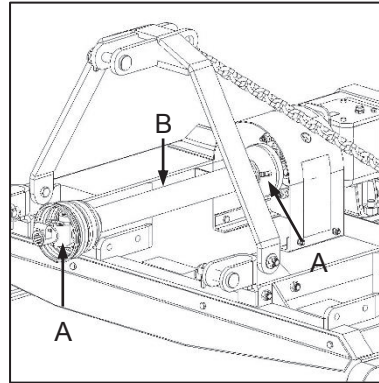

Fig. 5
- ✔ Apply grease to the universal joints (Fig. 5-A) and telescopic tubes (Fig. 5-B) of the PTO shaft.
- ✔ Ghries die kruiskoppelings (Fig. 5-A) en teleskopiese buise (Fig. 5-B) van die kragaftakkeras.